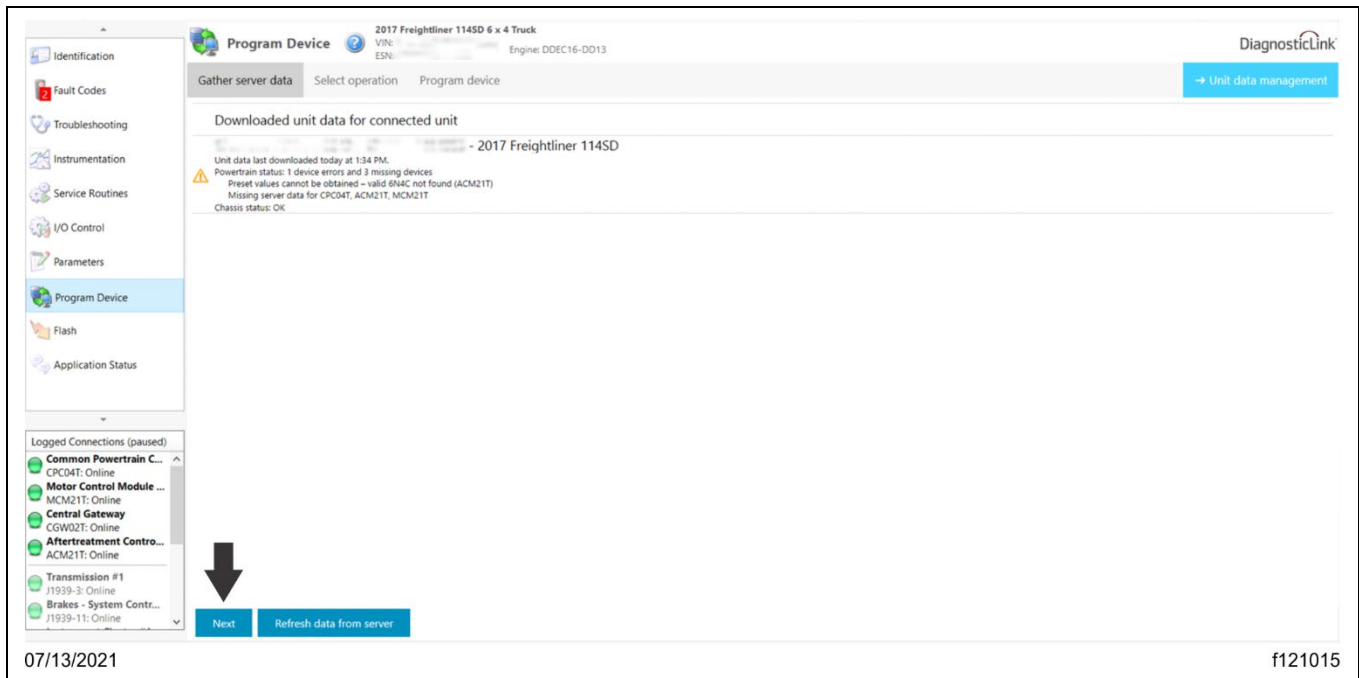

Fig. 17, Selecting 'Next' After Data Download
7.8. When the data download is completed, select 'Next.' See Fig. 17.